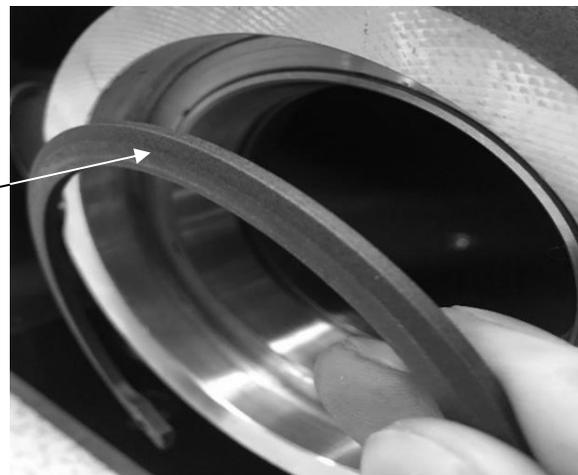

FIGURE 20 | BEVELED RETAINING RING WITH BEVEL FACING OUTWARD
- Install the beveled retaining ring (VHO-334STPA) with the bevel facing outward; see figure 20.